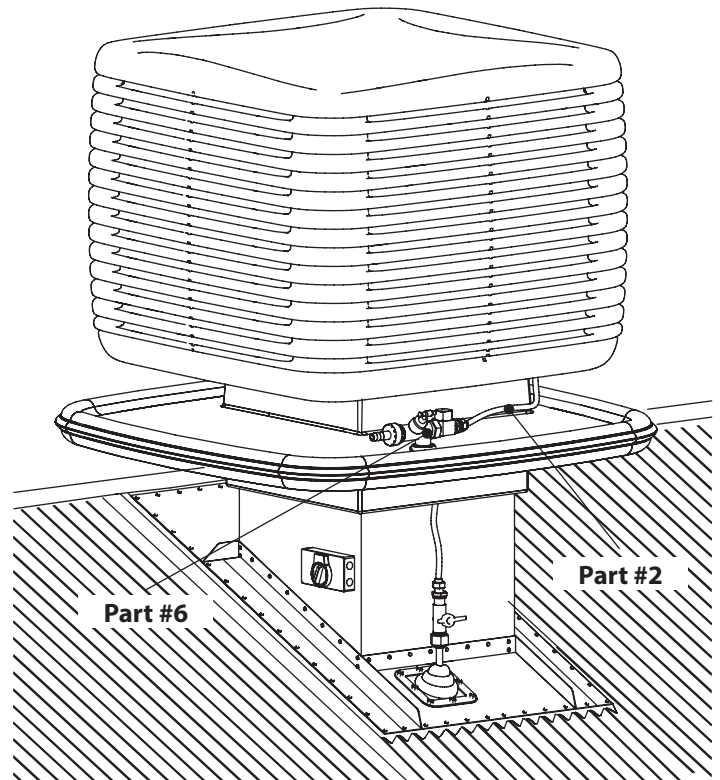

Fig. 15
- Install the free end of the 300mm flexihose (#2) onto tap assembly (#6) (Fig. 15)